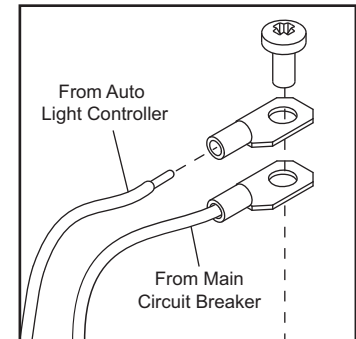

FIGURE 9
- b. **For units with screw terminals:** Remove and set aside the screw holding the red wire to the top of the main breaker. Remove the plastic cap from the end of the **red wire** from the auto light controller and crimp the included ring terminal to the stripped end. Reinstall screw and connect both red wires back to the main breaker. SEE FIGURE 9.